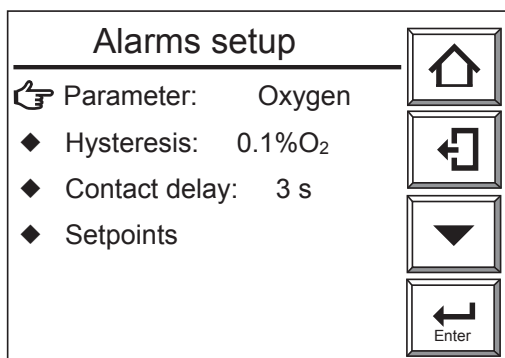
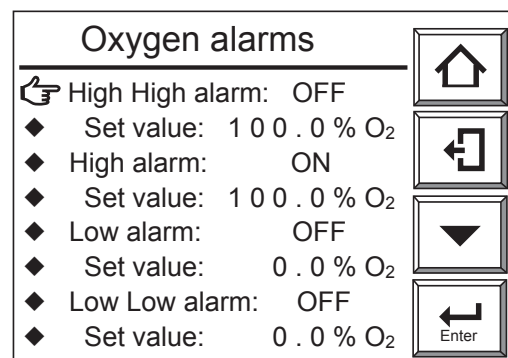

Figure 8.4 Alarms Setup Display
Figure 8.5 Oxygen Alarms Display
- (1) Press the [Setup] key in the Basic panel display to display the Execution/Setup display.
- (2) Select "Commissioning" in the Execution/Setup display. The Commissioning (Setup) display then appears.
- (3) Select the "Alarms setup" in the Commissioning (Setup) display. The Alarms setup display shown in Figure 8.4 then appears.
- (4) Select "Hysteresis" in the Alarms setup display. The numeric-data entry display then appears. Enter the desired hysteresis value as a percent of oxygen concentration. To set 2.5 vol%O2, enter "0025." The hysteresis setting can be in the range of 0 to 9.9 vol%O2.
- (5) Select the "Contact delay" in the Alarms setup display. The numeric-data entry display then appears. Enter the desired delay time, in seconds. To set three seconds, enter "003." The delay time setting can be in the range of 0 to 255 seconds.
- (6) Select the "Setpoints" in the Alarms setup display. The Oxygen alarms display then appears, as shown in Figure 8.5.
- (7) When you select "High alarm" in the Oxygen alarms display, the "OFF" or "ON" selection display then appears. If you select "ON," the High alarm will then be enabled (enable/disable).
- (8) To set the High alarm values select "Set value" just below the High alarm. The numeric-data entry display then appears. Enter the alarm set value (percent of oxygen concentration). If you want to set the alarm value to 10 vol%O2, enter "010."
- (9) Set the other alarm settings in the same manner as in the steps above.